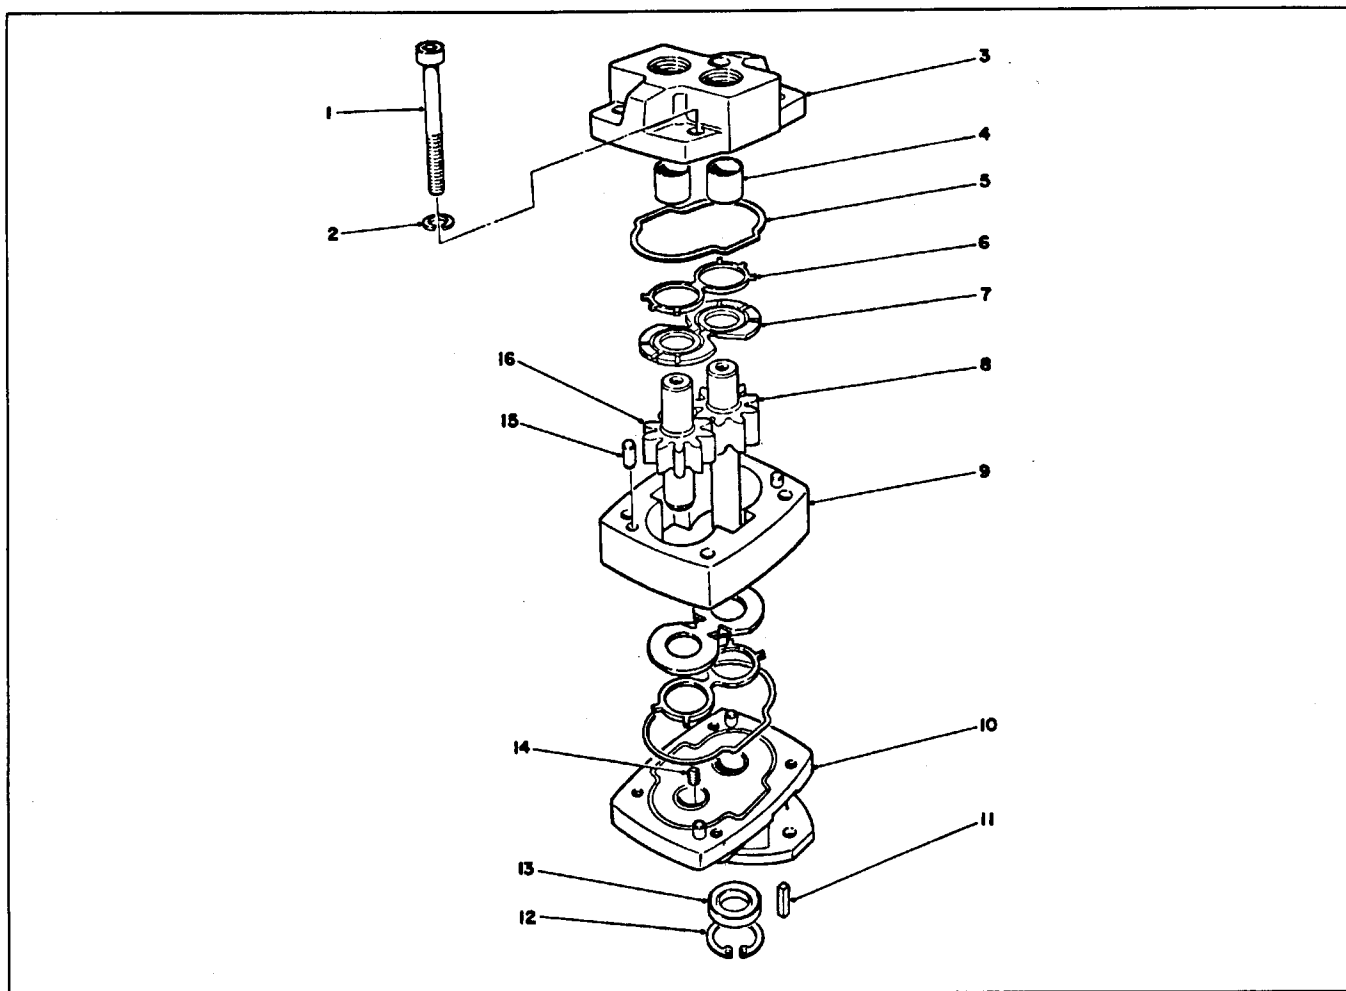

Figure 35
3. Never pry components apart. Light tapping with a plastic hammer on mounting ears will separate body from cover (Fig. 35).